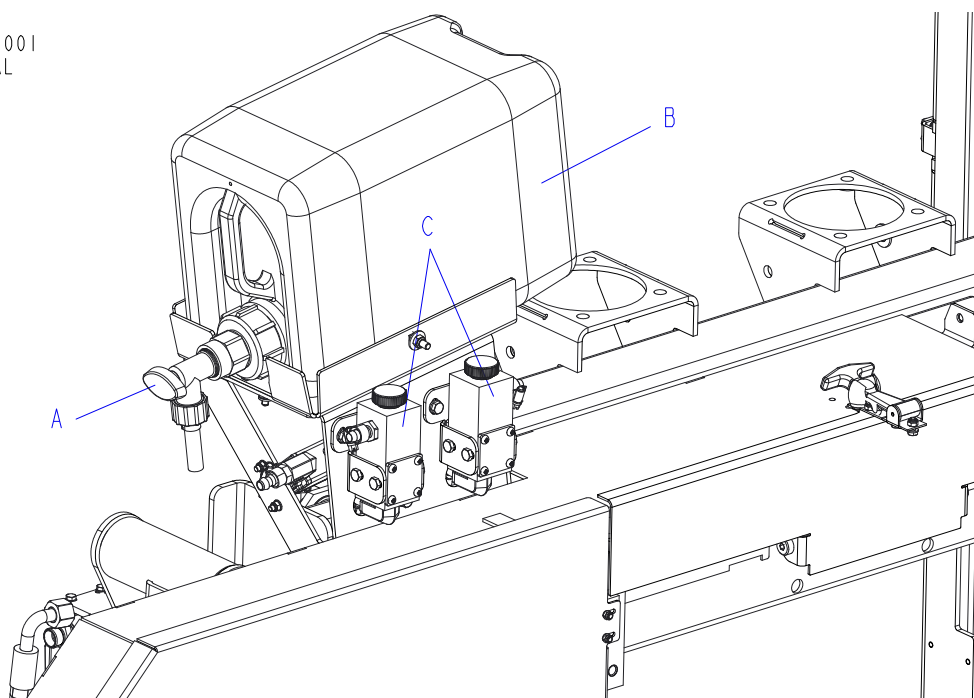

FIG. 2-4.
See Figure 2-4. The Lube System keeps the blade and the wheels clean and cools them. When shut-off valve (A) is open, the coolant (ACP-1 oil) flows from the tank (B) through hoses to surfaces of the wheels. Oil dispensers (C) located on the saw head control the amount of oil flow.